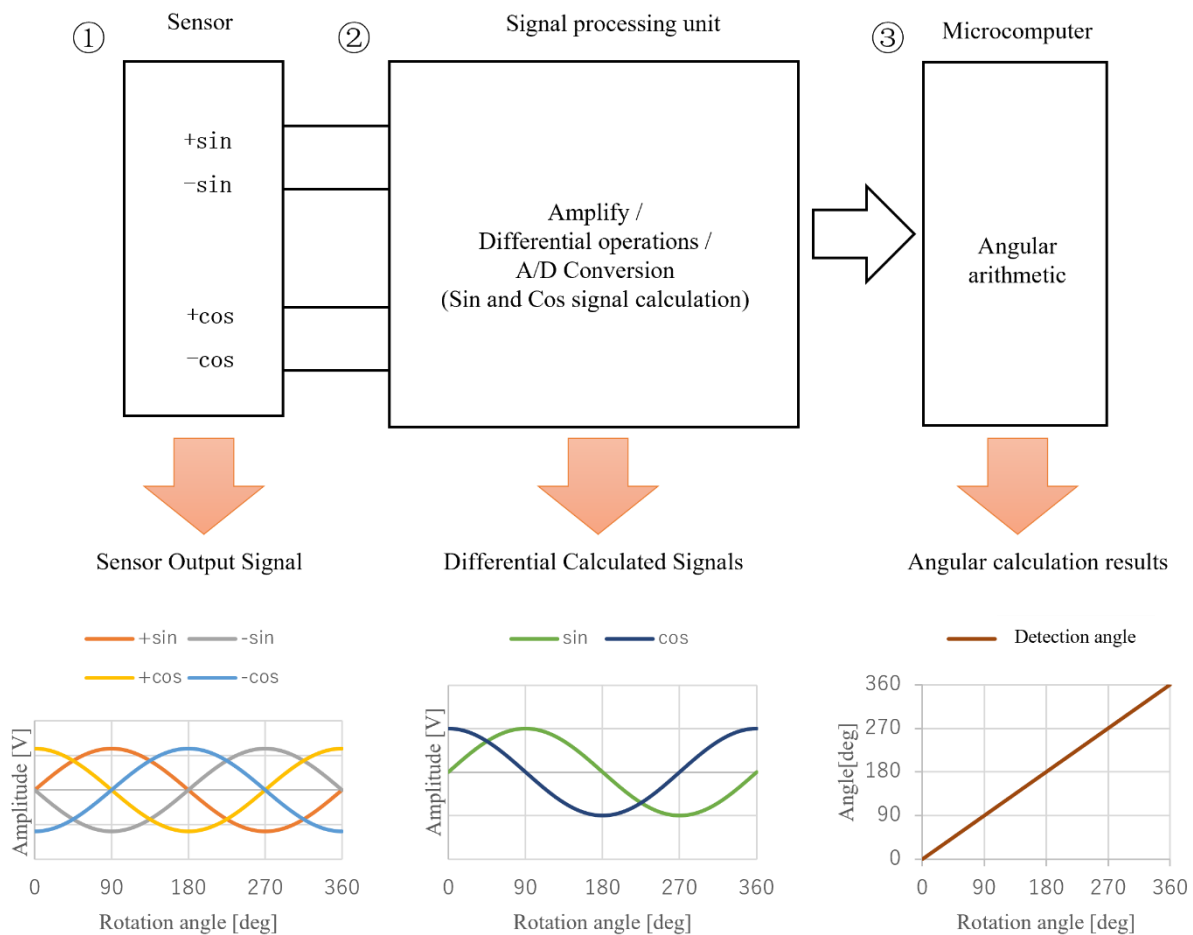

Fig.9 Angle calculation flow
The magnetic angle sensor (HGARPS011A) has four MR sensor bridges in the package and the four sensor bridges output two phase signals with a phase difference of 90 degrees. Following is the flow from the four signals output from the magnetic angle sensor to the angle acquisition. The item numbers (① to ③) in the description correspond to the numbers shown in Fig.9. For details, refer to the Design guide.